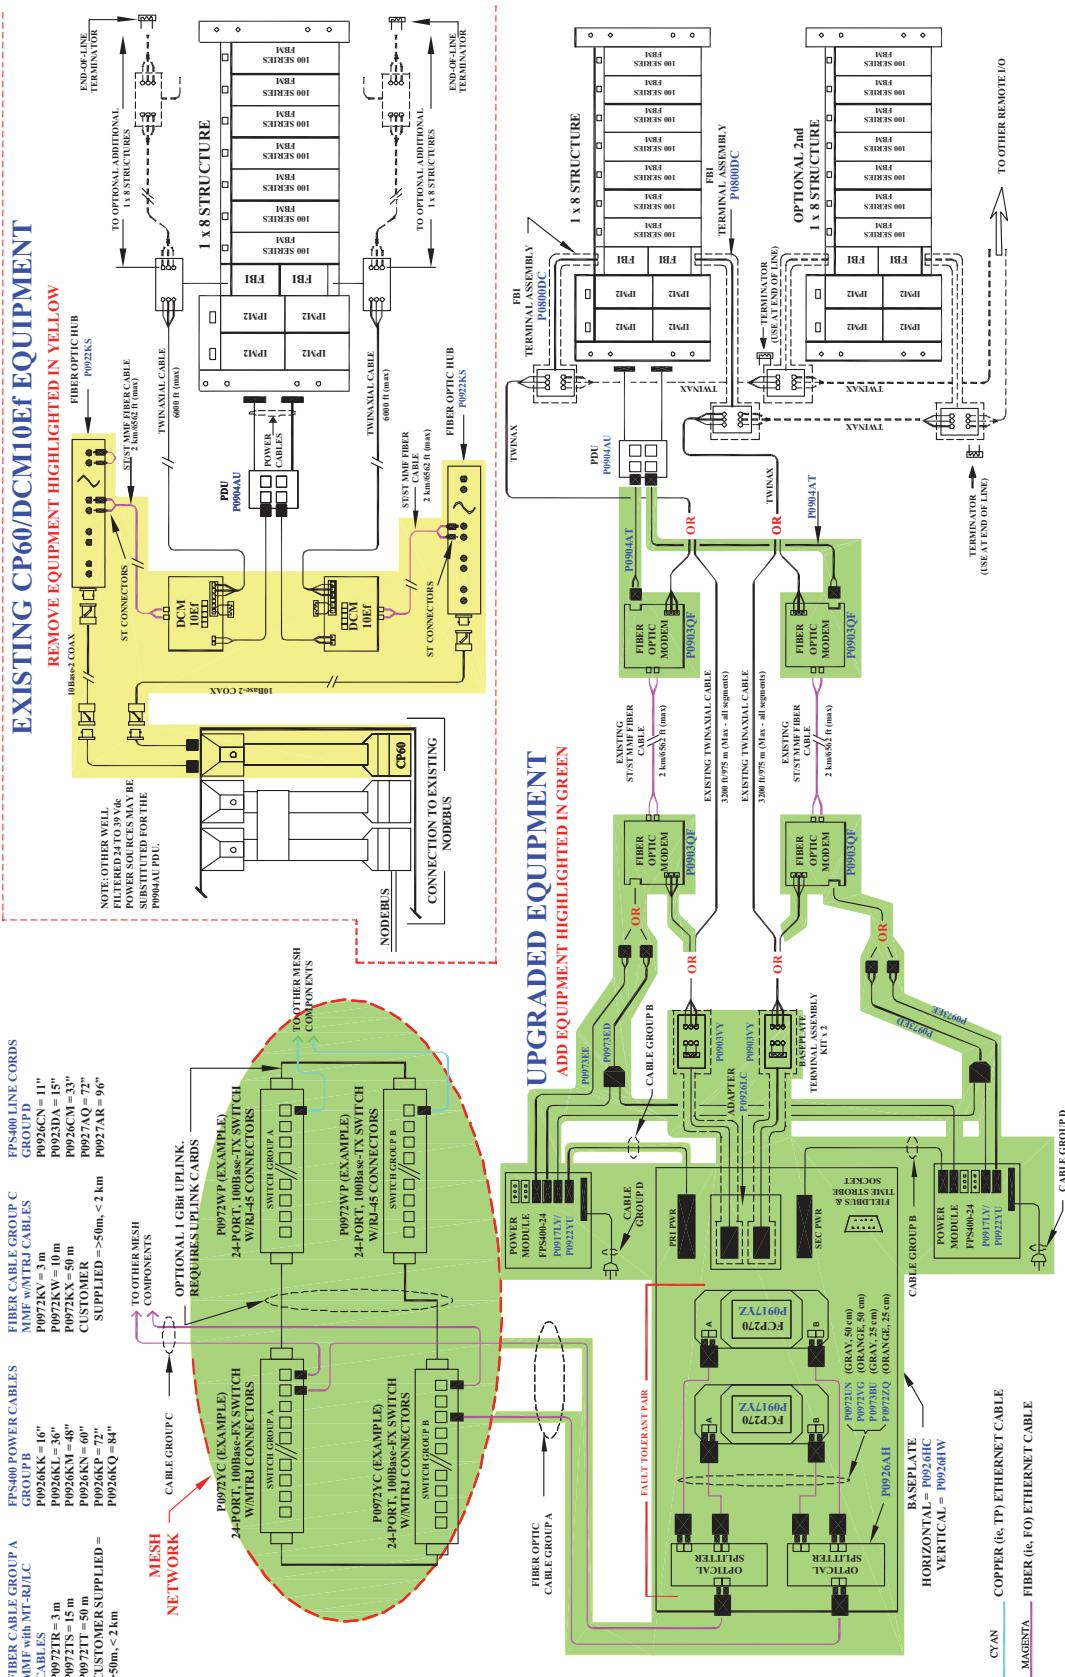

Figure A-5. Converting CP60 with DCM10Ef with Fiber Optic Hub to FCP270
- ◆ Figure A-5 “Converting CP60 with DCM10Ef with Fiber Optic Hub to FCP270” on page 88